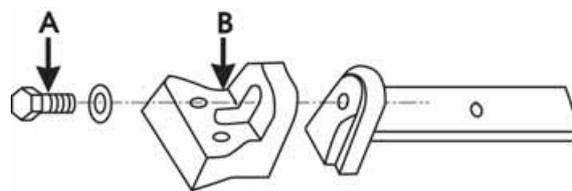

Fig.4
1. Loosen the screw (A, Fig.4).
2. Adjust the blade guide (B, Fig.4) to make the blade vertical to the bed.
4. Tighten the screw (11)